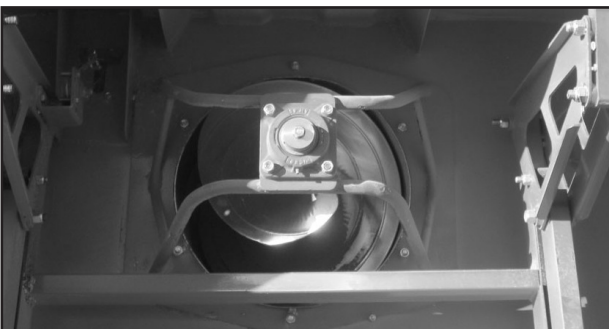

Figure 22 – Auger front
8) Before continuing with the preparation of the grain bag, check that the auger is completely free from obstructions along the tube, i.e. that it rotates freely. Figure 22 shows the front of the auger.